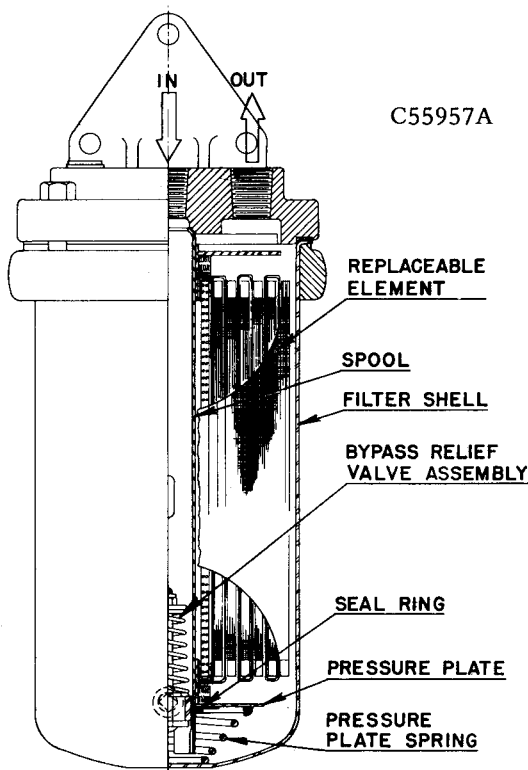

FIGURE 10. – COMPRESSOR OIL FILTER
**COMPRESSOR OIL FILTER** (Figure 10) is a vital part in maintaining a trouble-free compressor, since it removes dirt and abrasives from circulated oil. Filter is a replaceable cloth bag element type and is equipped with a relief valve that opens in event element becomes dirty enough to block flow of oil. Element must be replaced each 1000 hours; more frequent changes improve system reliability and are recommended.